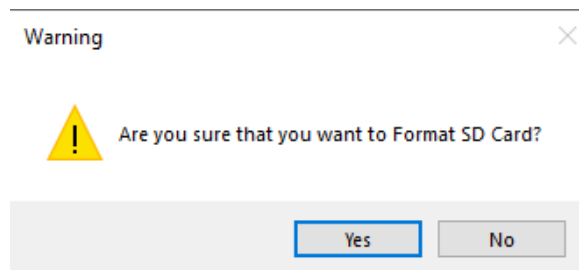

**Figure 11. System Check**
- **Final Check:** do a system check of the system. This will check the installed hardware status such as SD card, pressure sensor, compass etc. Click the button will pop up the System check window as shown in Figure 11.